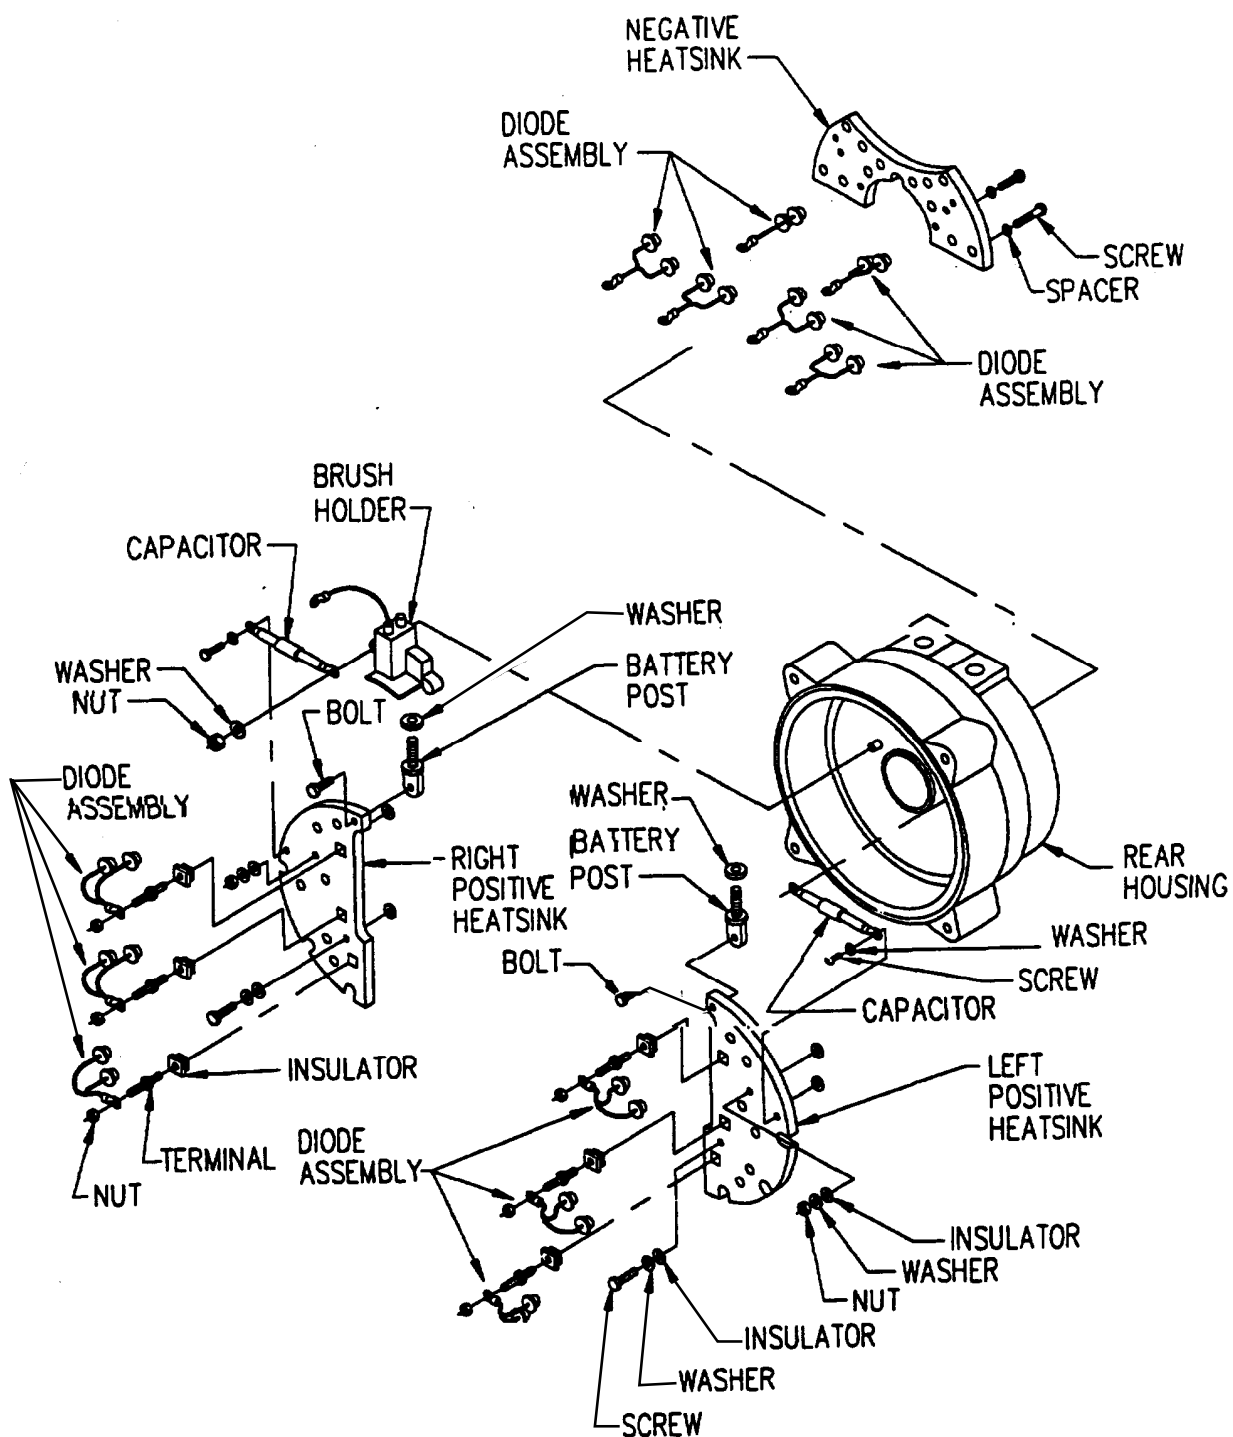

Figure 5-48. Diodes and Capacitor Replacement
- (2) Remove brush holder and lift off capacitor leads (Figure 5-48).
- (3) Tag stator leads. Then remove nuts from heat sink terminals (6 places) and carefully separate stator from rear housing.
- (4) Tag ends of capacitors. Then remove screws and lockwashers securing capacitors to heat sink and remove capacitors.
- (5) Tag and disconnect diode leads from heat sink terminals.
- (6) Remove bolts and spacers securing positive heat sinks to rear housing. Retain all insulators.
- (7) Lift positive heat sinks from rear housing. Ensure tie point insulators remain in place.
- (8) Remove screws with spacers securing negative heat sink to rear housing.
- (9) Using a suitable press and short hardwood dowel, remove defective diodes.
- (1) Install new lugs on each diode clipped during removal. Ensure that leads are long enough to reach tie points (Figure 5-48).
- (2) Using suitable press, install replacement diodes into heat sinks.
- (3) Install negative heat sink on outside of rear housing and secure with screws and spacers.
- (4) Install positive heat sinks in inside of rear housing and secure with bolts and spacers. Ensure that negative diode leads are routed as tagged.
- (5) Install new brush holder with brushes by aligning holder to mounting holes with arm over tie point. Ensure that lower brush lead is captured under right side mounting stud.
- (6) Secure brush holder with nuts and washers.